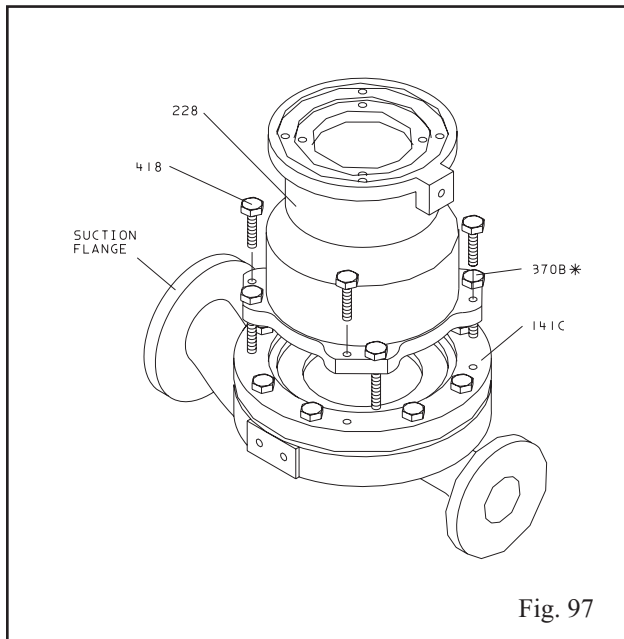

Fig. 97
1. Secure the casing (100) to workbench.
2. Remove 4 bolts (370B) from the C-face motor support / bearing frame (228) (Fig. 97).
3. Grasp motor adapter and pull free from casing (Fig. 97).
4. Remove casing bolts (356A) (Fig. 97)